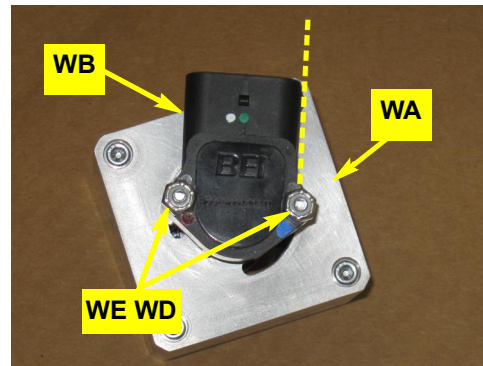

Figure 1a: Prepared WAS housing/connector
- a. Using the provided hardware **WE** (nuts) and **WD** (bolts - not shown), attach the WAS wire connector **WB** to the WAS housing **WA**. Install the bolts up through the bottom of the housing. Align the right edge of the connector (viewed from above, socket away from you) with the corner of the WAS housing (Figure 1a).